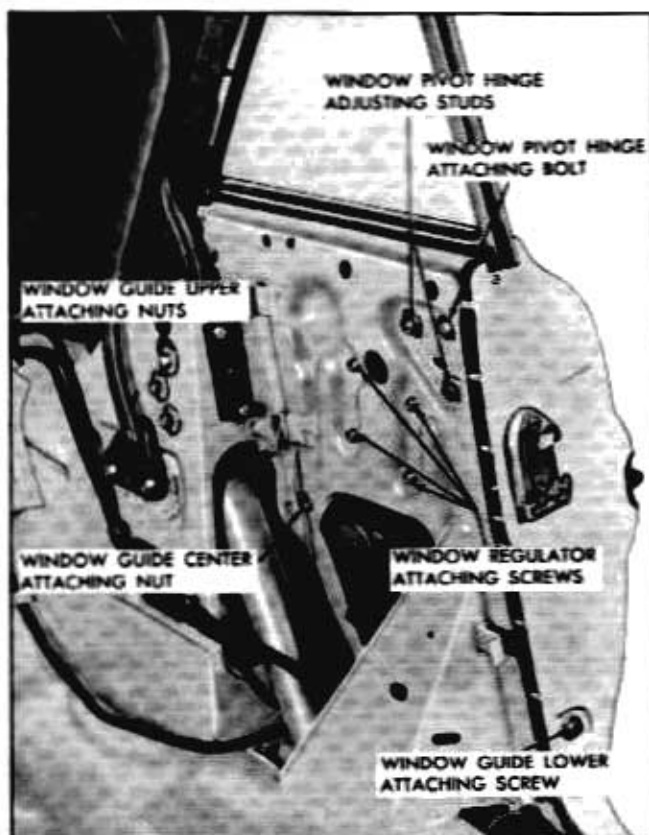

Fig. 3-6 Rear Quarter Hardware—67 Styles
3. Remove window pivot bolt, shown in Fig. 3-6. Disengage window male hinge from female hinge plate; then raise window to disconnect window lower sash channel cam from roller on window regulator lift arm and remove window.
1. To adjust the limit of the rear quarter window up travel, loosen the window guide upper attaching screws (Fig. 3-6); then adjust upper stop to desired position and tighten guide attaching screws.
Loosen pivot bolt and both adjusting stud nuts (Fig. 3-6). Position window as required; then tighten pivot bolt and stud nuts.
Loosen lower adjusting stud nuts and slightly loosen rear stud nut. Adjust lower stud in or out, as required, then tighten both stud nuts (Fig. 3-6).
Loosen pivot hinge rear adjusting stud nut and loosen slightly lower adjusting stud nut. Loosen window guide upper attaching nuts and center stud nut (Fig. 3-6). Adjust rear adjusting stud in or out, as required, then tighten both stud nuts. Adjust window guide for proper alignment with window and tighten upper attaching nuts and center stud nut.
5. Remove regulator attaching screws (Fig. 3-6). Disengage regulator lift arm roller from window lower sash channel cam and remove regulator assembly through access hole.
3. Remove window guide upper and center attaching nuts and lower attaching screw (Fig. 3-6). Disengage window guide from behind window frame and remove guide through large access hole.